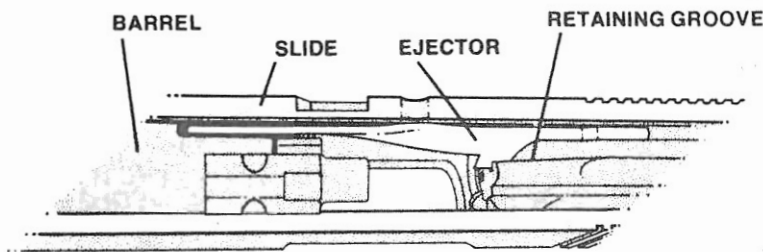
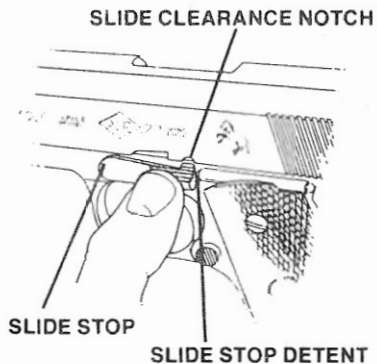

Figure 10 Locating Ejector in Retaining Groove
Figure 11 Installing Slide Stop
11. Pull barrel forward until ejector is clear of retaining groove and lift out ejector (See Figure 10).
in the retaining groove of the slide (See Figure 10). After the barrel and barrel bushing are reassembled into the slide, run the slide onto the receiver until the barrel lug is exposed through the slide stop hole. Insert the slide stop into the receiver and through the barrel lug, taking care not to scratch the pistol. Snap the slide stop into place by pressing up and in against the slide stop detent when the slide clearance notch is properly aligned (See Figure 11). Then continue assembling in reverse order 5 through 1.